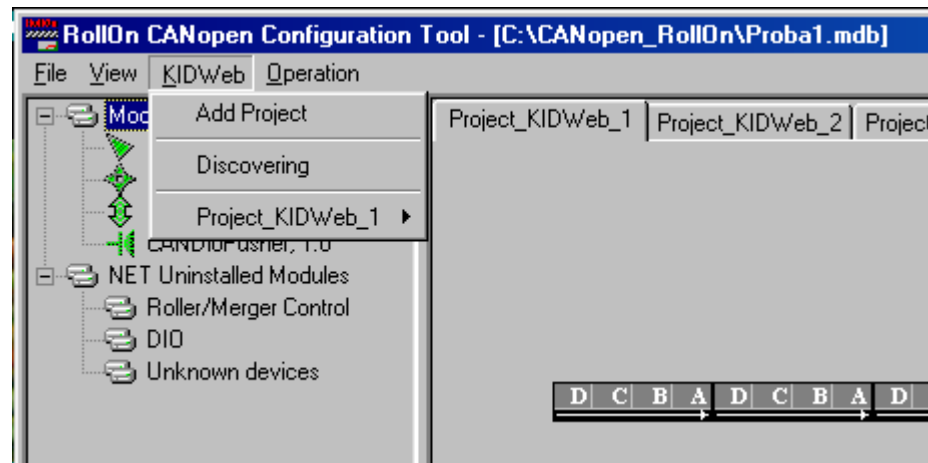

Fig. 4.30
- Click on **KIDWeb** menu to call the drop-down box shown in Fig. 4.30.